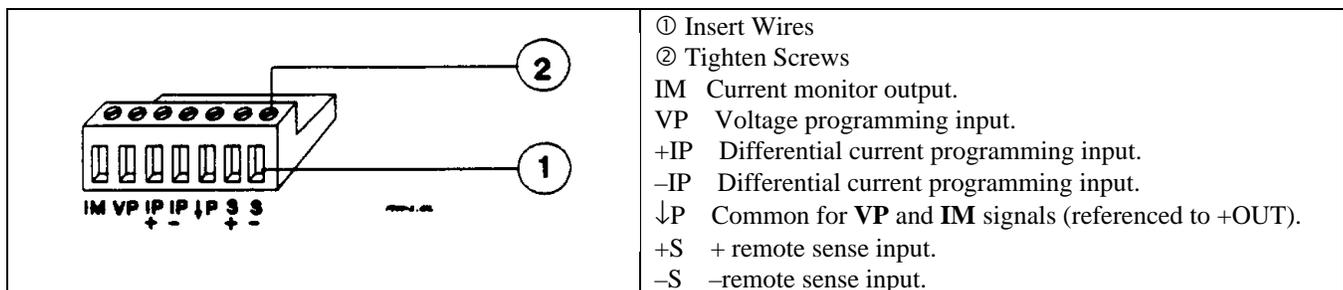

Figure 4-1. Rear Panel Analog Connector
You must connect the positive side of the load to the **+S** analog connector pin and the negative side of the load to the **-S** analog connector pin (see Figure 4-1). Connect the sense leads carefully so that they do not become open-circuited. If sense leads are left open during operation, the unit will regulate at the output terminals instead of at the load. Remember to bundle or tie wrap the load leads to minimize inductance and reduce noise pickup.
**Programming.** Note from Figure 4-1 that you have three options for programming the current. You can use a voltage source that is positive, negative, or floating with respect to **Common P**. Do not exceed  $\pm 15$  V with respect to **Common P**.